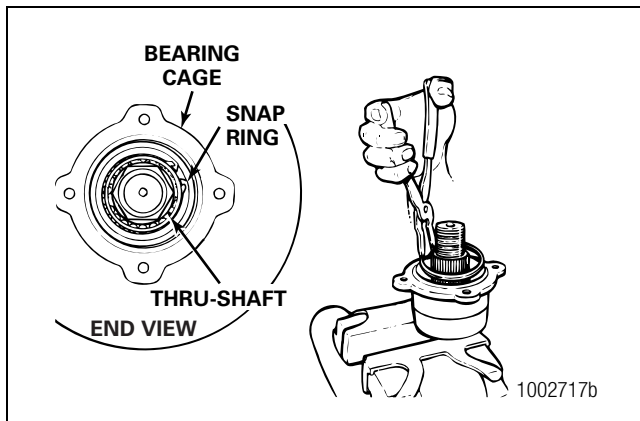

Figure 5.6
5. Install the snap ring that fastens the outer cup in the cage. The snap ring controls the end play of the output bearing. Figure 5.6.